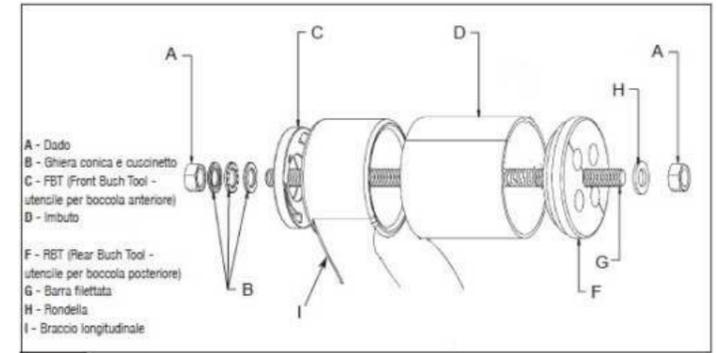

Fig. 2
**NOTE:** This following procedure requires assistance of another person. Before removal and fitment of pivot bushes, an original pivot bush replacement kit is required (cod. G0106008800A – Fig. 2).